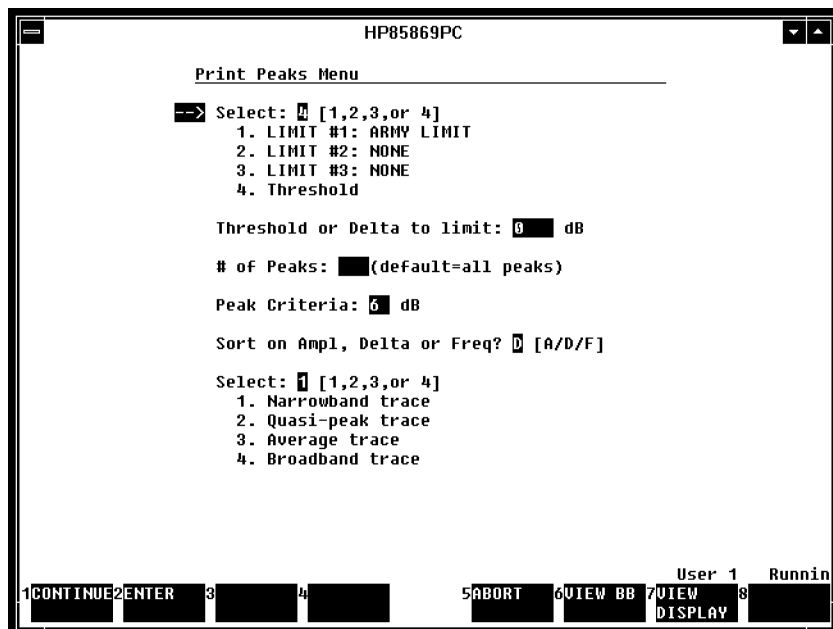

Figure 7-11. Print Peaks Options Menu
Peak criteria is the amount the amplitude rises and falls in order to be considered a peak. Peak criteria can be changed from its default of 6 dB. Depending on available traces, either peak, quasi-peak, average, or log average, amplitudes and frequencies can be listed using the print peaks menu. All of these options are available by setting up a table as shown in Figure 7-11.
After selecting the Print Peaks option, from the data analysis options menu, a display similar to Figure 7-11 appears on your computer.
After pressing the **SELECT** softkey, a display similar to Figure 7-11 appears on your computer.
6. If a threshold is selected, option 4 as shown in Figure 7-11, enter the amplitude value. The units value of the Threshold or Delta-to-limit is assumed to be the same as the current spectrum analyzer amplitude scale.